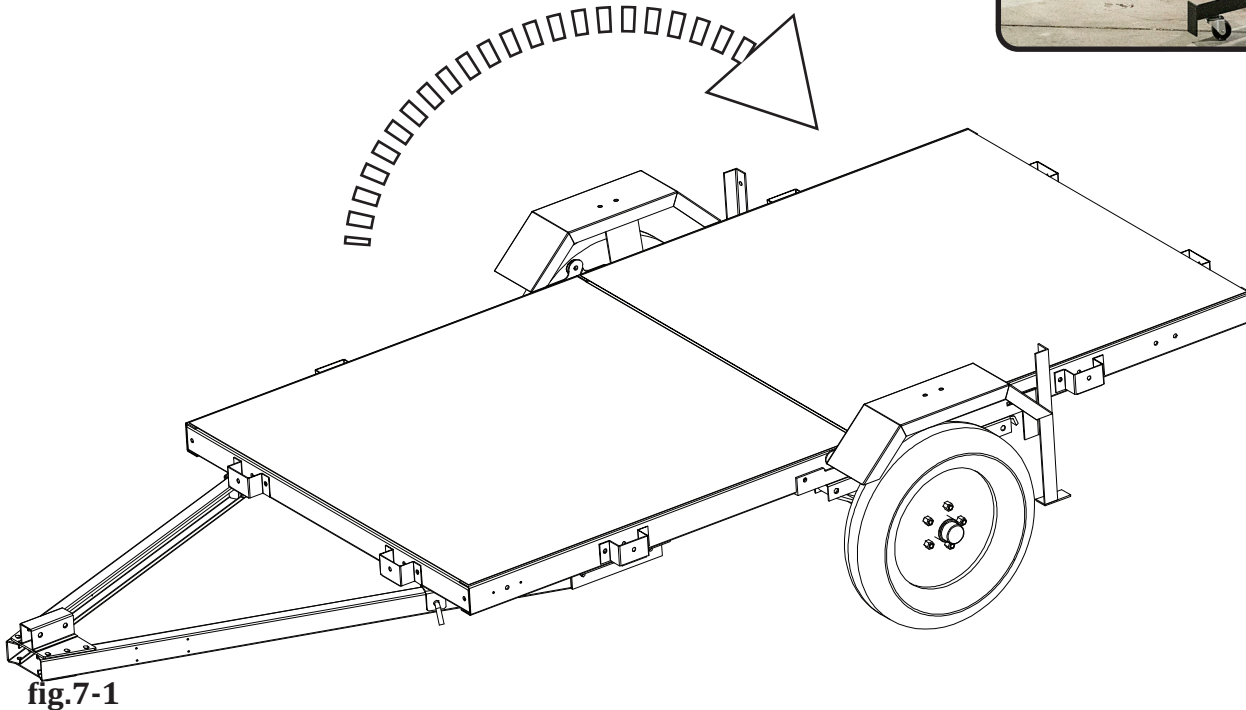

fig.7-1
2. Fasten the brackets together using the M10 x 20 (34) on both sides
3. Carefully flip the rear trailer bed down as shown in fig. 7-1
**NOTE:** two (35) and two (34) can be inserted to join your bed halves and have your trailer tow ready.